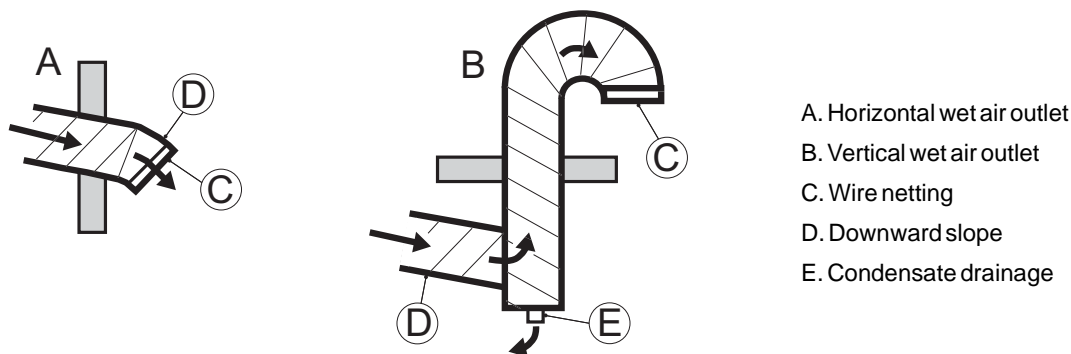

Figure 3.26 Wet air outlet design
- Horizontal wet air ducts must be installed with a slight decline (away from the dehumidifier) to drain away possible condensation. Suitable condensation drains should be installed at low points in the wet air outlet duct, see *Figure 3.26*.